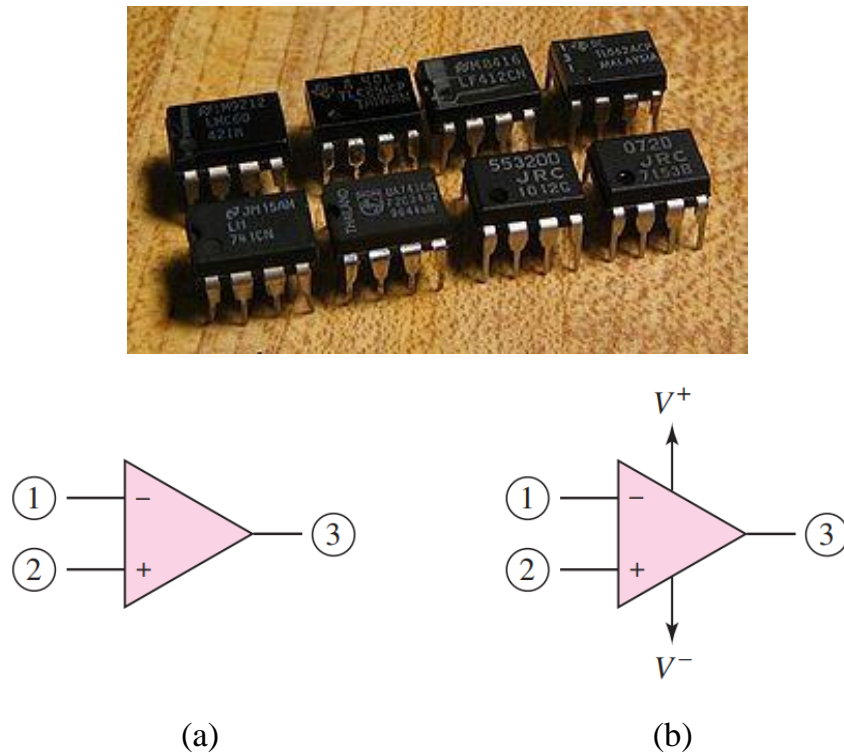

Figure 13: IC LM741 and symbols of op-amp (a) and op-amp with V^+ and V^- (b).
Op-amp (Operational Amplifier) is a very high gain amplifier circuit, which "senses" the difference between the voltage signals at the two input terminals (1 and 2). This difference is then amplified to generate the output signal at the output terminal (3). Figure 13 shows the IC package of an op-amp (LM741) and symbols of op-amp.